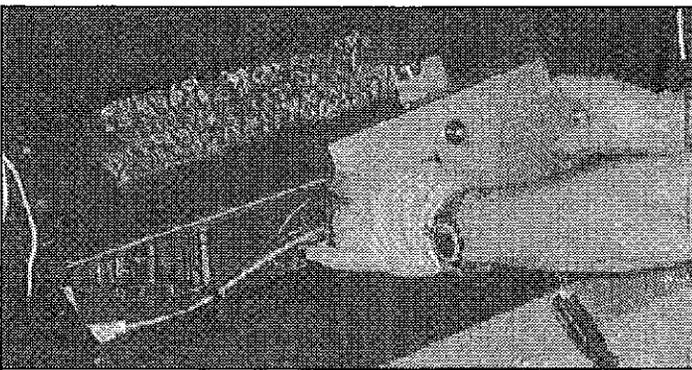

Figure 3.6 Remove Valve Assembly
- Remove the valve assembly as shown in Figure 3.6.